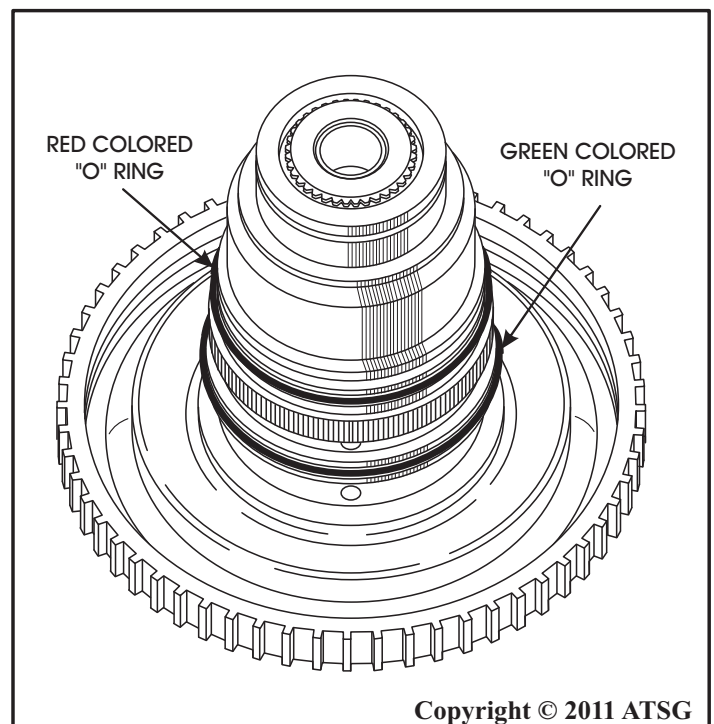

Figure 96
9. The "O" rings on the input clutch hub are color coded. Install Green and Red colored "O" rings in the positions shown in Figure 96, and lube with a small amount of TransJel®.